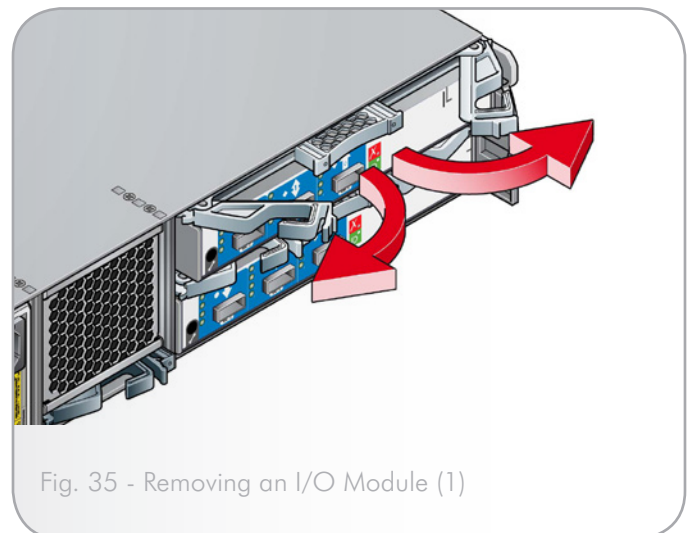

Fig. 35 - Removing an I/O Module (1)
3. Cam the module home by manually closing the latch (Fig. 35). A click should be heard as the module latches engage.
3. Grip the latch handles and withdraw the module (Fig. 35).